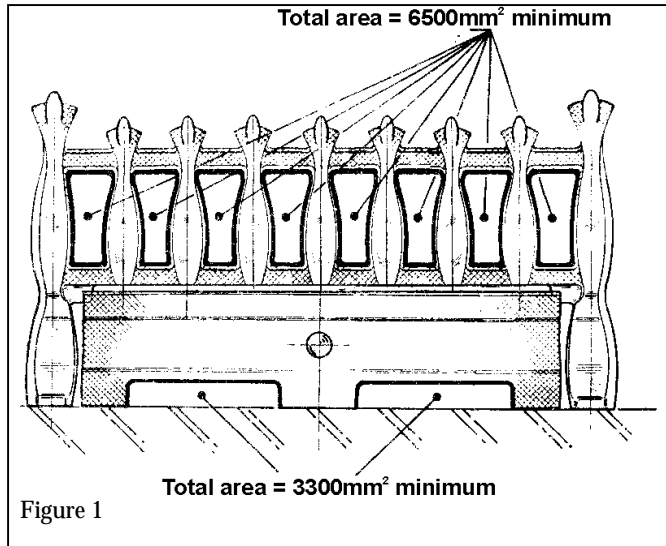

Figure 1
2.7 A slotted firefront with minimum free area as shown in figure 1 must always be used.